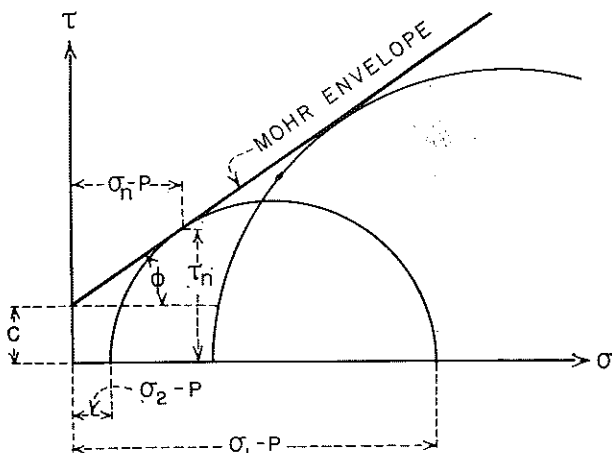

FIGURE 2 - MOHR CRITERION
For elastic bodies, many hypotheses of failure have been suggested, but it is now generally conceded that the Mohr hypothesis best expresses the relation between the stresses which exist at the point where failure occurs.¹⁹ Triaxial tests on soil samples in which pore pressure is absent have verified that the Mohr hypothesis is applicable also to soil, and that the Mohr envelope is practically a straight line. (See *figure 2*.) Tests on samples in which pore pressures do exist also verify the hypothesis when the contact stresses are plotted in place of the total stresses. In many laboratories, the direct shear method is employed, and no consideration is given to the pore pressures in the sample. When the total stresses are plotted, the Mohr envelope curves and flattens out for high compressions. This becomes more pronounced the less pervious the sample is and the more moisture it contains, due to the fact that higher pore pressures will be induced. In other words, the apparent angle of internal friction ϕ and cohesion C would both be functions of the "total-stresses," moisture contents, and compressibility of the soil, whereas ϕ and C have been found to remain stationary when defined in terms of the "contact-stresses," and thus assume the role of real physical constants for each type of soil.
From the Mohr hypothesis, *figure 2*, the relation between the angle of friction ϕ , the cohesion C , and the greatest
By consideration of figure 2, it is easily deduced that the critical slip planes at failure under stresses σ_1 and σ_2 are located at an angle, $45^\circ - \frac{1}{2}\phi$, on either side of σ_1 . The stresses acting on these planes are σ_n and τ_n . When the critical stresses have been determined at all points of the structure, it is of course, possible to determine the continuous curves of slip correspondingly. These have only academic interest inasmuch as the stability analysis deals with the structure from the point of view that such slips actually will not occur. The question of critical slip planes, however, becomes of importance when two possible critical solutions show up in the course of the analysis due to the fact that equation (5) becomes of second degree when the principal stresses are expressed by its components, as in equation (7).